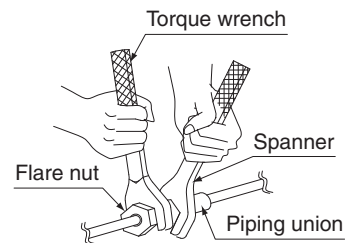

Fig. 3
- (1) Connect the piping.
- When connecting or disconnecting piping to or from the unit, be sure to use two spanners and two torque wrenches. (Refer to Fig. 3)